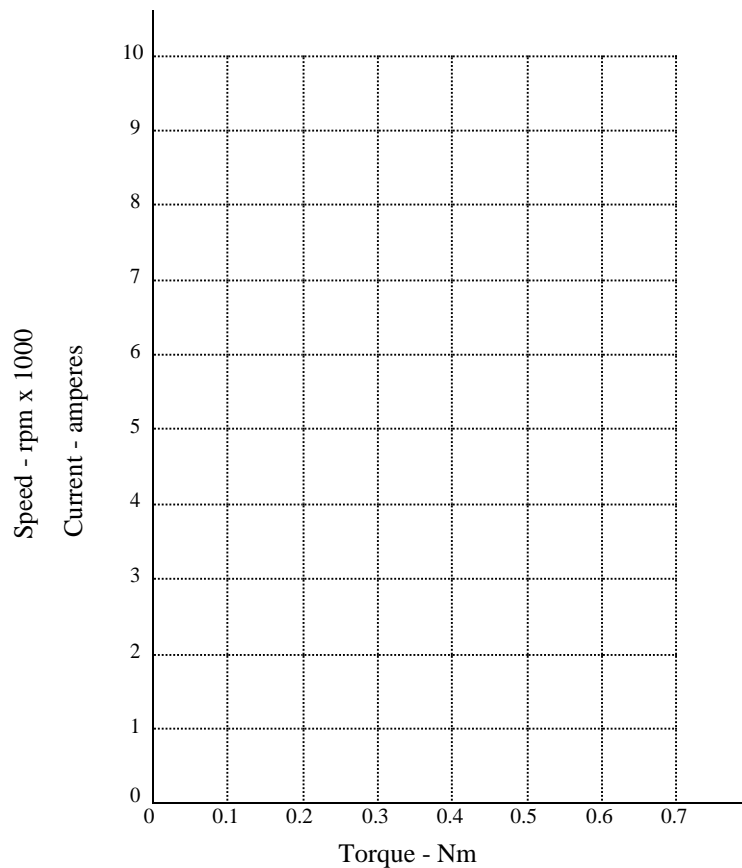

Figure 5
1. Use the information recorded in tables 1 and 2 to complete the graph of figure 5.
4. From the curves drawn in figure 5, compare the AC and DC operation over the tested load range by commenting on:-